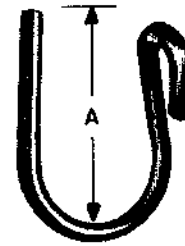

Fig. 24 — B Wire Loop
6.08 The B wire loop is available in four sizes corresponding to those of the standard drive rings (Fig. 24). D masonry fasteners are used to support B wire loops and any size combination of both may be used.